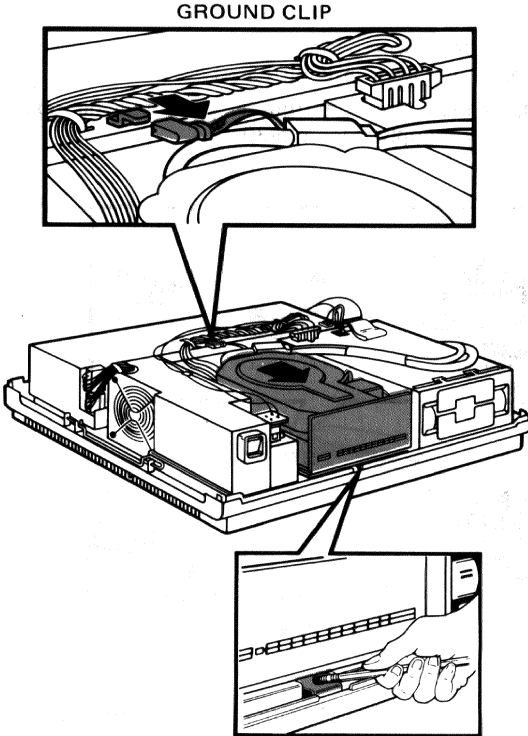
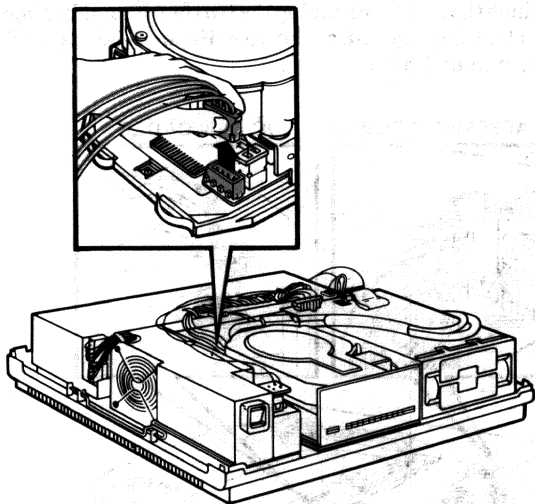

Figure 5-31 Unplugging Ground Clip and Sliding Hard Disk Drive Forward
Figure 5-32 Unplugging 4-Wire Cable
4. If a hard disk drive (Winchester) is present, unplug the ground clip from the power supply (Figure 5-31). Press the front latch with a pencil and slide the hard disk drive forward (Figure 5-31). Unplug the 4-wire power cable from the hard disk drive (see Figure 5-32).